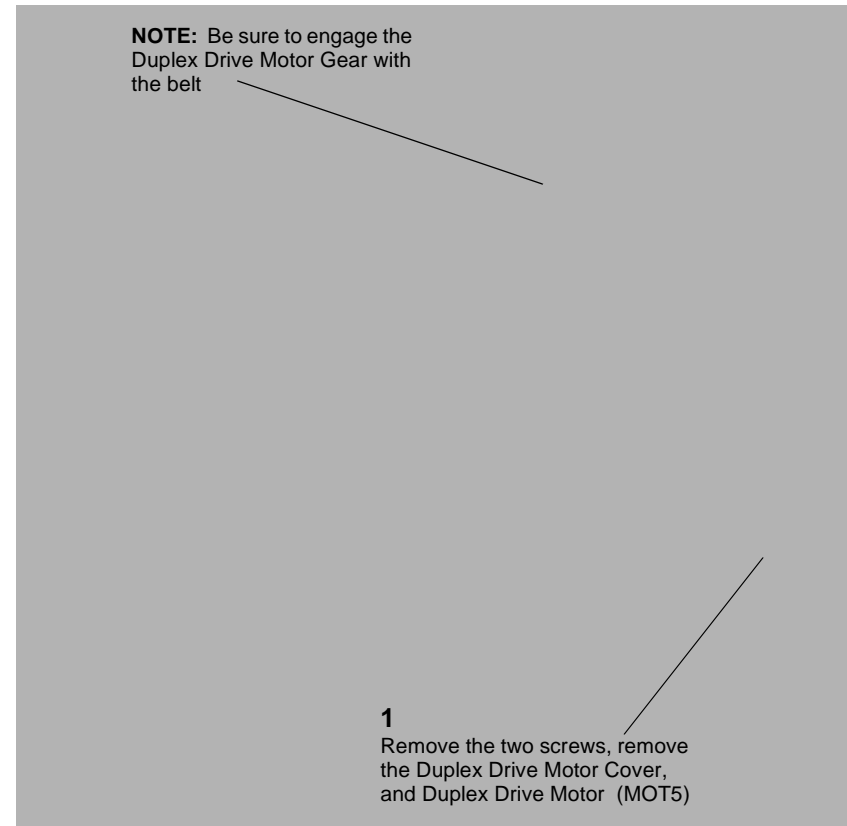

Figure 4 Removing the Duplex Drive Motor (MOT5)
5. (Figure 4): Remove the Duplex Drive Motor (MOT5).